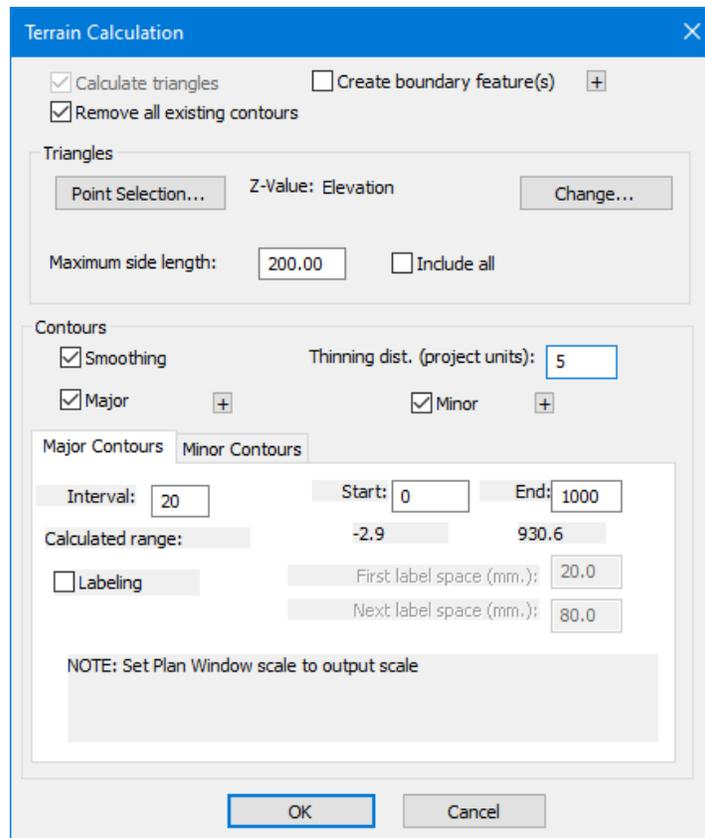

Figure 7-6: Terrain Calculation parameters to be used to generate TIN with Live Map DEM data.
16. Set the *Terrain Calculation* parameters to match the ones shown in Figure 7-6 below, then press **OK**.